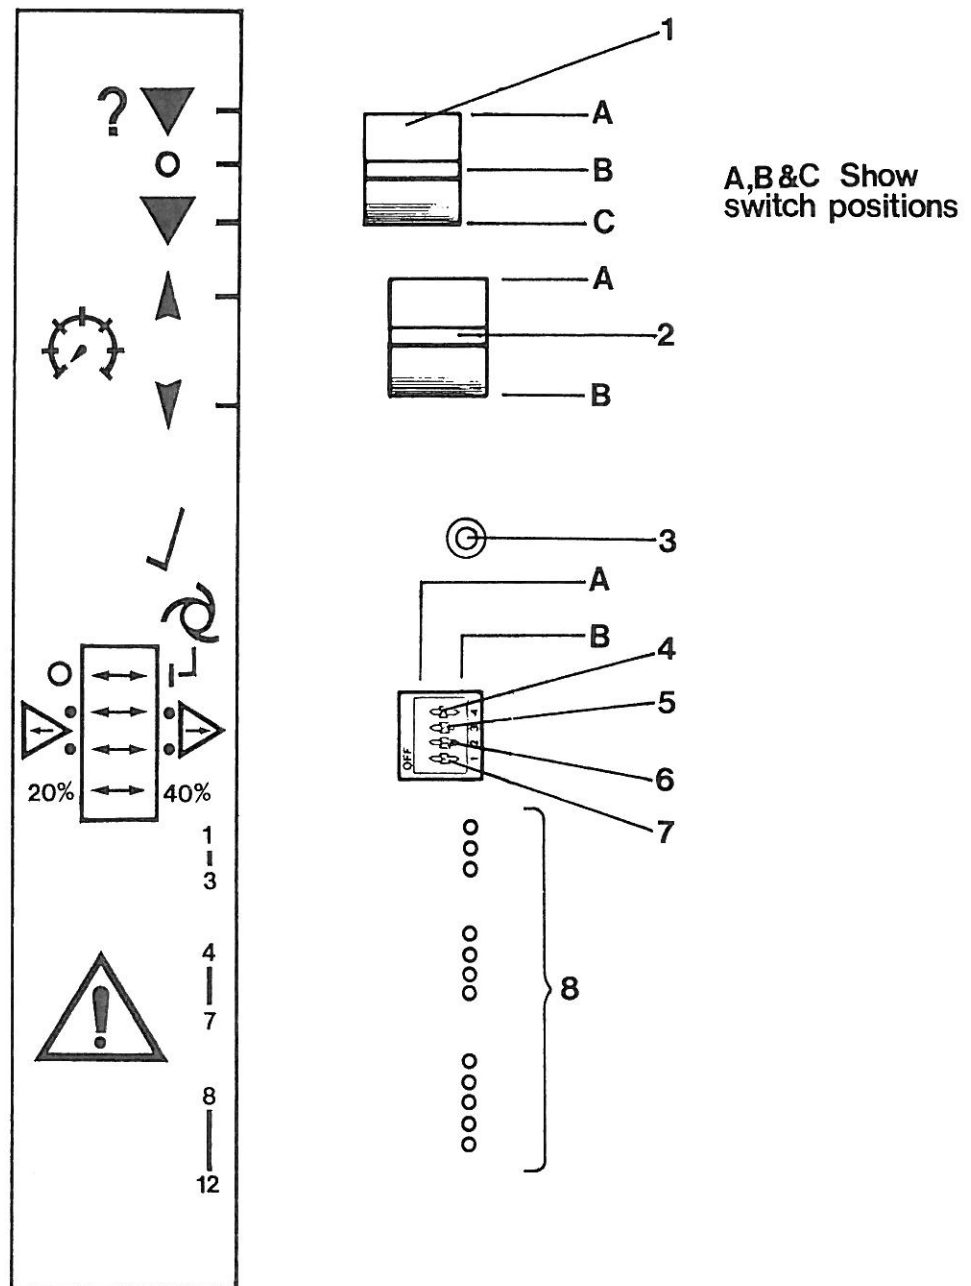

FIG.10
1. Ensure that the 'auto' and 'calibrate' switches on the calibration panel (Fig.10, items 1 & 4) are in the normal running positions (Symbol ).
(References are to Fig.10)
WARNING: During this procedure the depression switch, operated by the small roller, is disabled and the rollers can be started even though no vehicle is standing on the machine. This can occur if switch No.1 (see Fig.10) is in the 'Calibrate' position 'C' or 'Cal. Check' position 'A'. The rollers must be protected by the hinged covers under these conditions.
(See Fig.10)
RE-CALIBRATION (See Fig.10)